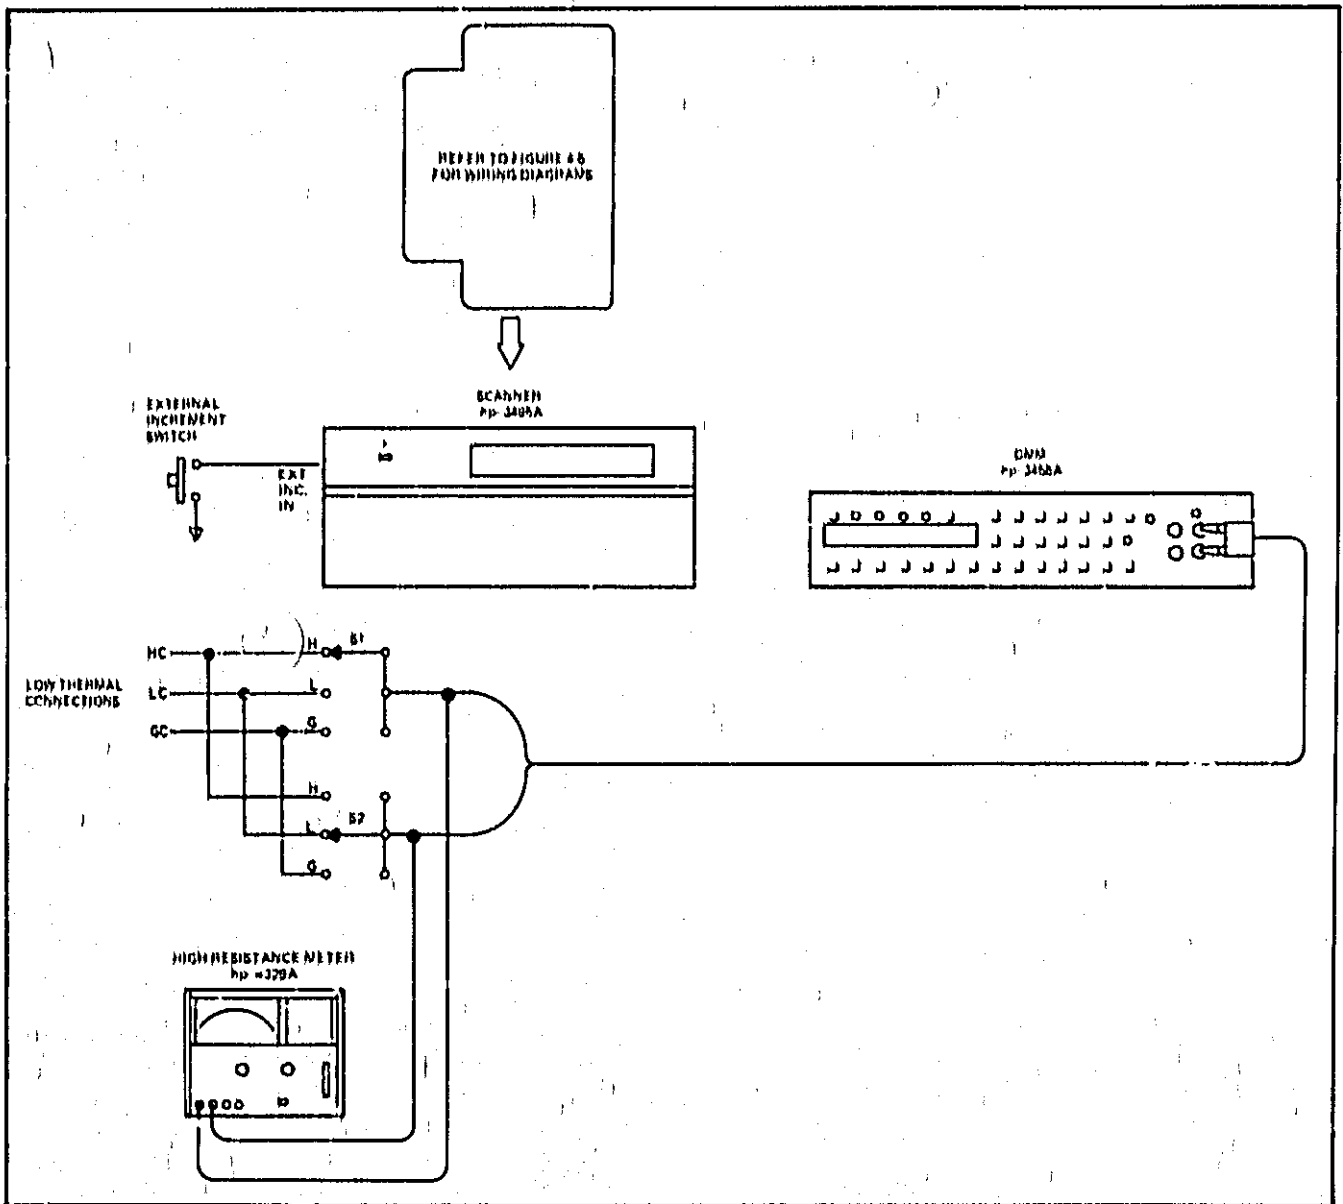

Figure 4-6. Channel Isolation Test Setup.
as determined by the Select Switches S1 and S2 in Figure 4-6.
- DPDT Switch (2) (hp-3101-1235)
a. Connect the test setup as shown in Figure 4-6. Use the proper value for R_S as shown in Table 4-2.